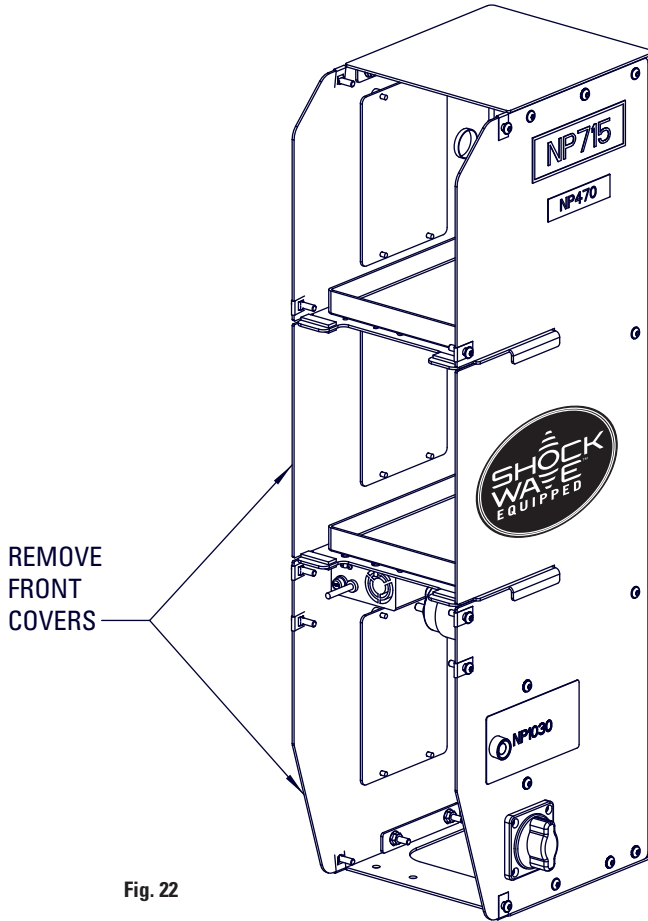

Fig. 22
- A. First, remove front plastic covers and lower cover, Figure 22, and set aside to be reinstalled later.